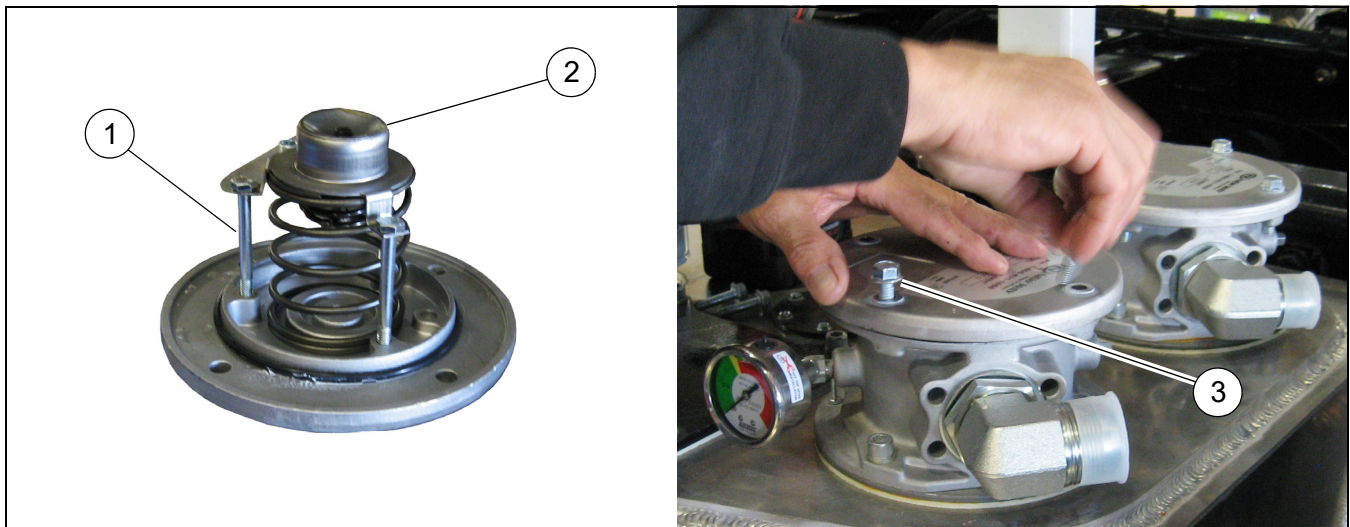

Figure 8
- Install the cover assembly (**Figure 8, 1**) on top of the filter housing.
- When installing align the plunger (**Figure 8, 2**) of the cover into the top of filter element.
- Install and tighten the cap screws (**Figure 8, 3**) to hold cover in place.